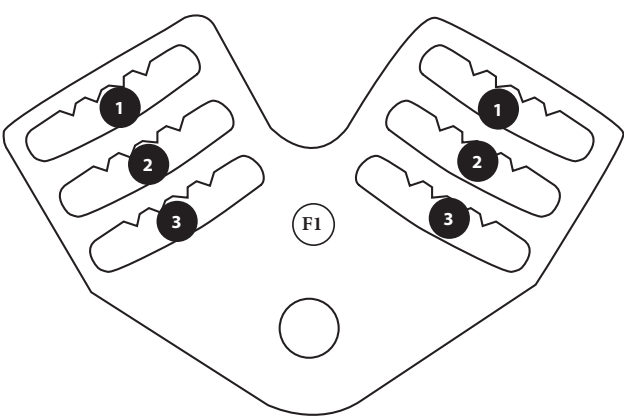
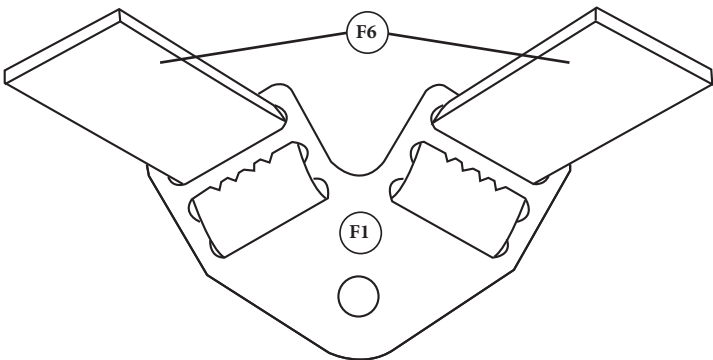

FIG. 2a
FIG. 2b
- 2** Pull the left and right ends of the Webbing Handle (F6) through loop 1 of the Handle Plate (F1). Then thread up through loop 2 and into loop 3 [FIG. 2a]. Tuck the excess behind the Handle Plate (F1) so that the end of the Webbing Handle (F6) is captured between the Drum (D) and the Handle Plate (F1). See [FIG. 2b]